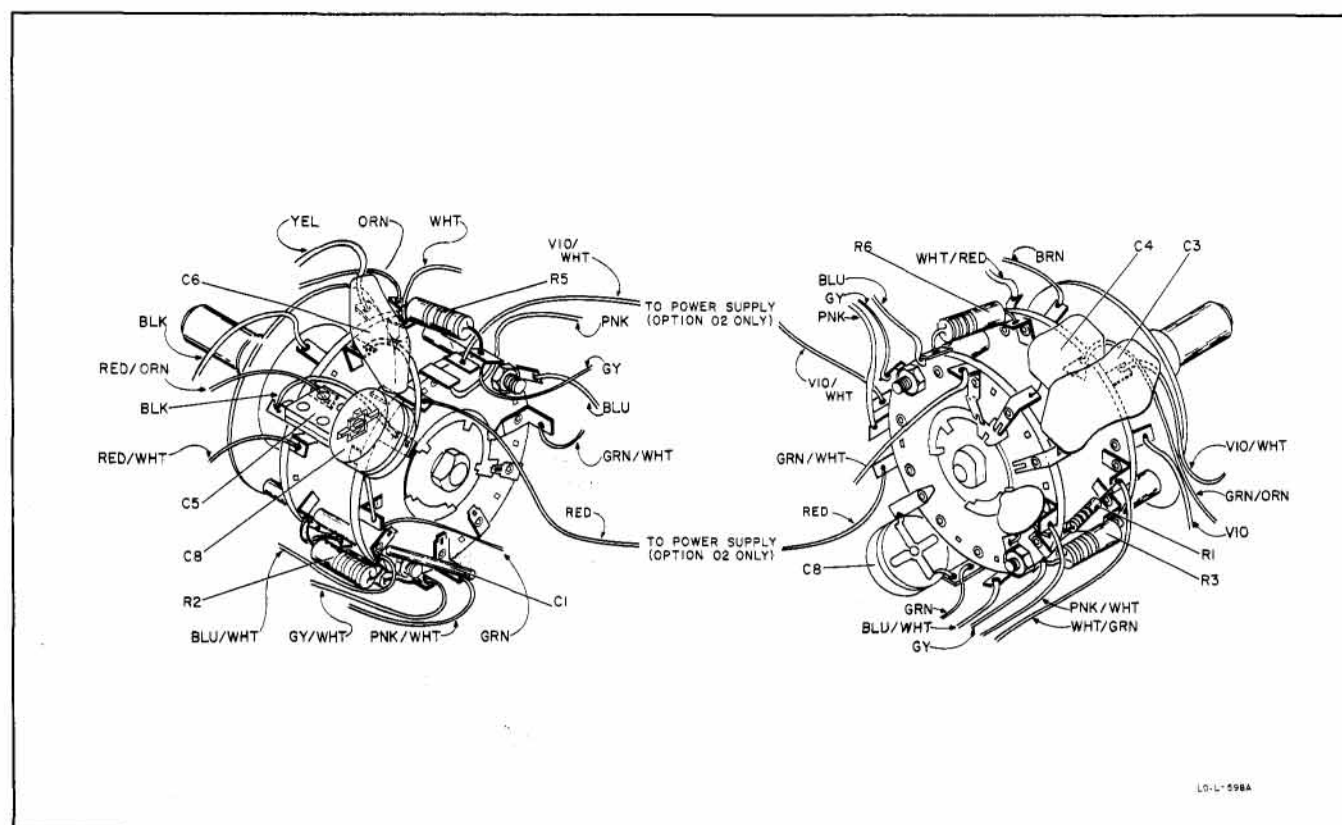

Figure 5-6. Range Switch Detail
k. Set RANGE to X10K, FREQ. to 5 (50 kc), and adjust C8 (figure 5-6) to obtain a 50-kc output.
5-37. To aid in replacing the RANGE switch assembly (Stock No. 204B-95D, refer to the exploded view, figure 5-4, and range switch detail, figure 5-6.
- e. Solder leads to replacement switch using figure 5-6 as a guide for correct lead connections.